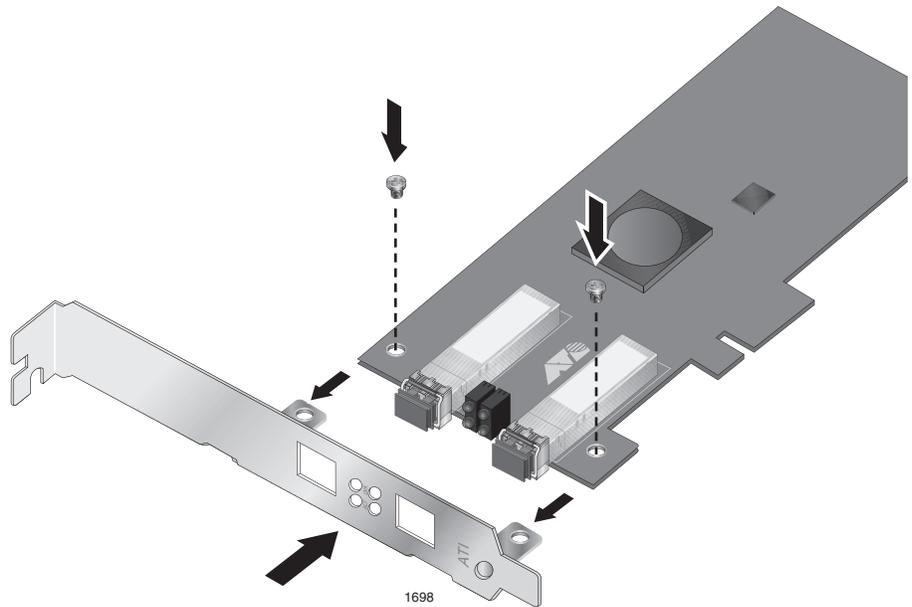

Figure 8. Fastening Screws onto Standard Bracket
2. Align the tabs of the standard bracket with the holes on the adapter and fasten the screws onto the adapter. See Figure 8.